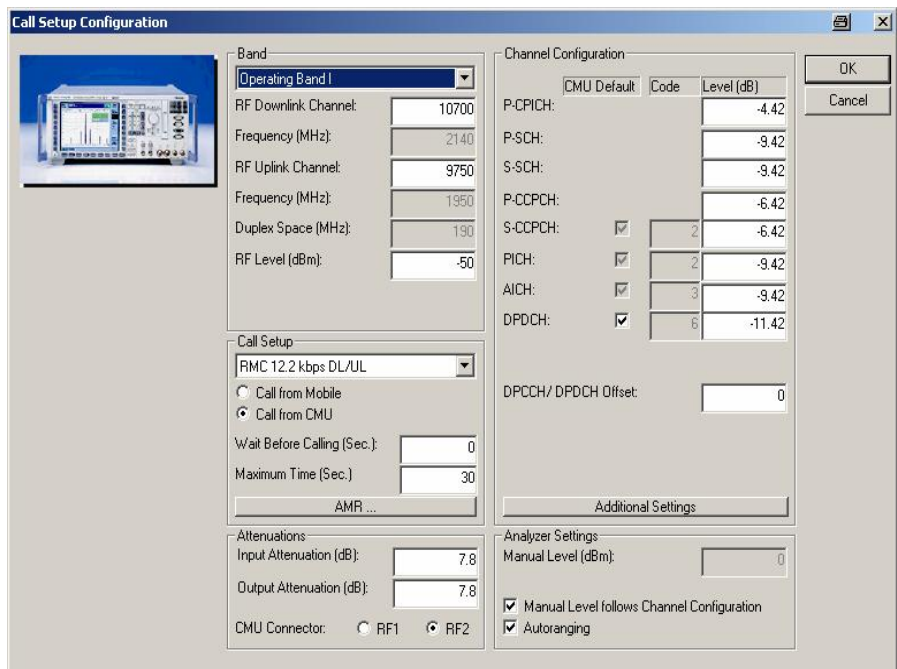

Fig. 6.5\_3: Call setup configuration
- 5) Enter the path loss you measured between UE and CMU200 as *Input Attenuation* and *Output Attenuation* (lower left in Fig. 6.5\_3))